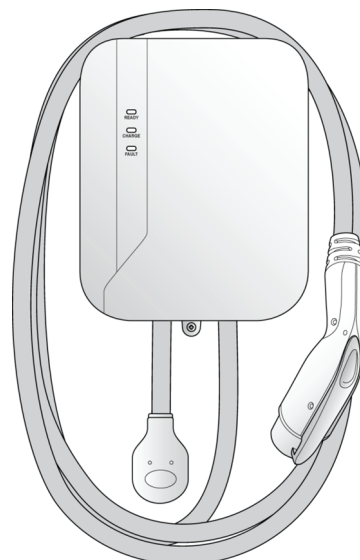

Figure 4-8.
12. See Figure 4-8. Place the charger cable properly.